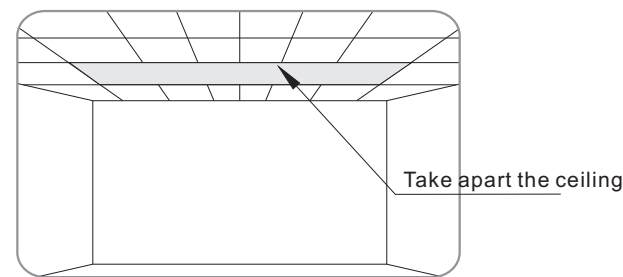
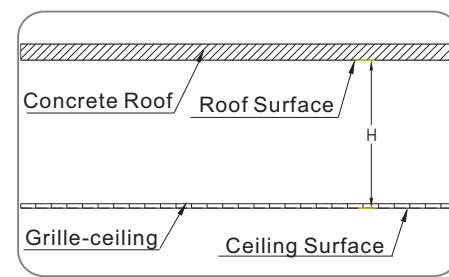

Figure 1
Figure 2
1. Choose a position according to the required space, and then take apart the ceiling (figure 1). Please measure the distance H between concrete roof and ceiling surface correctly (figure 2).